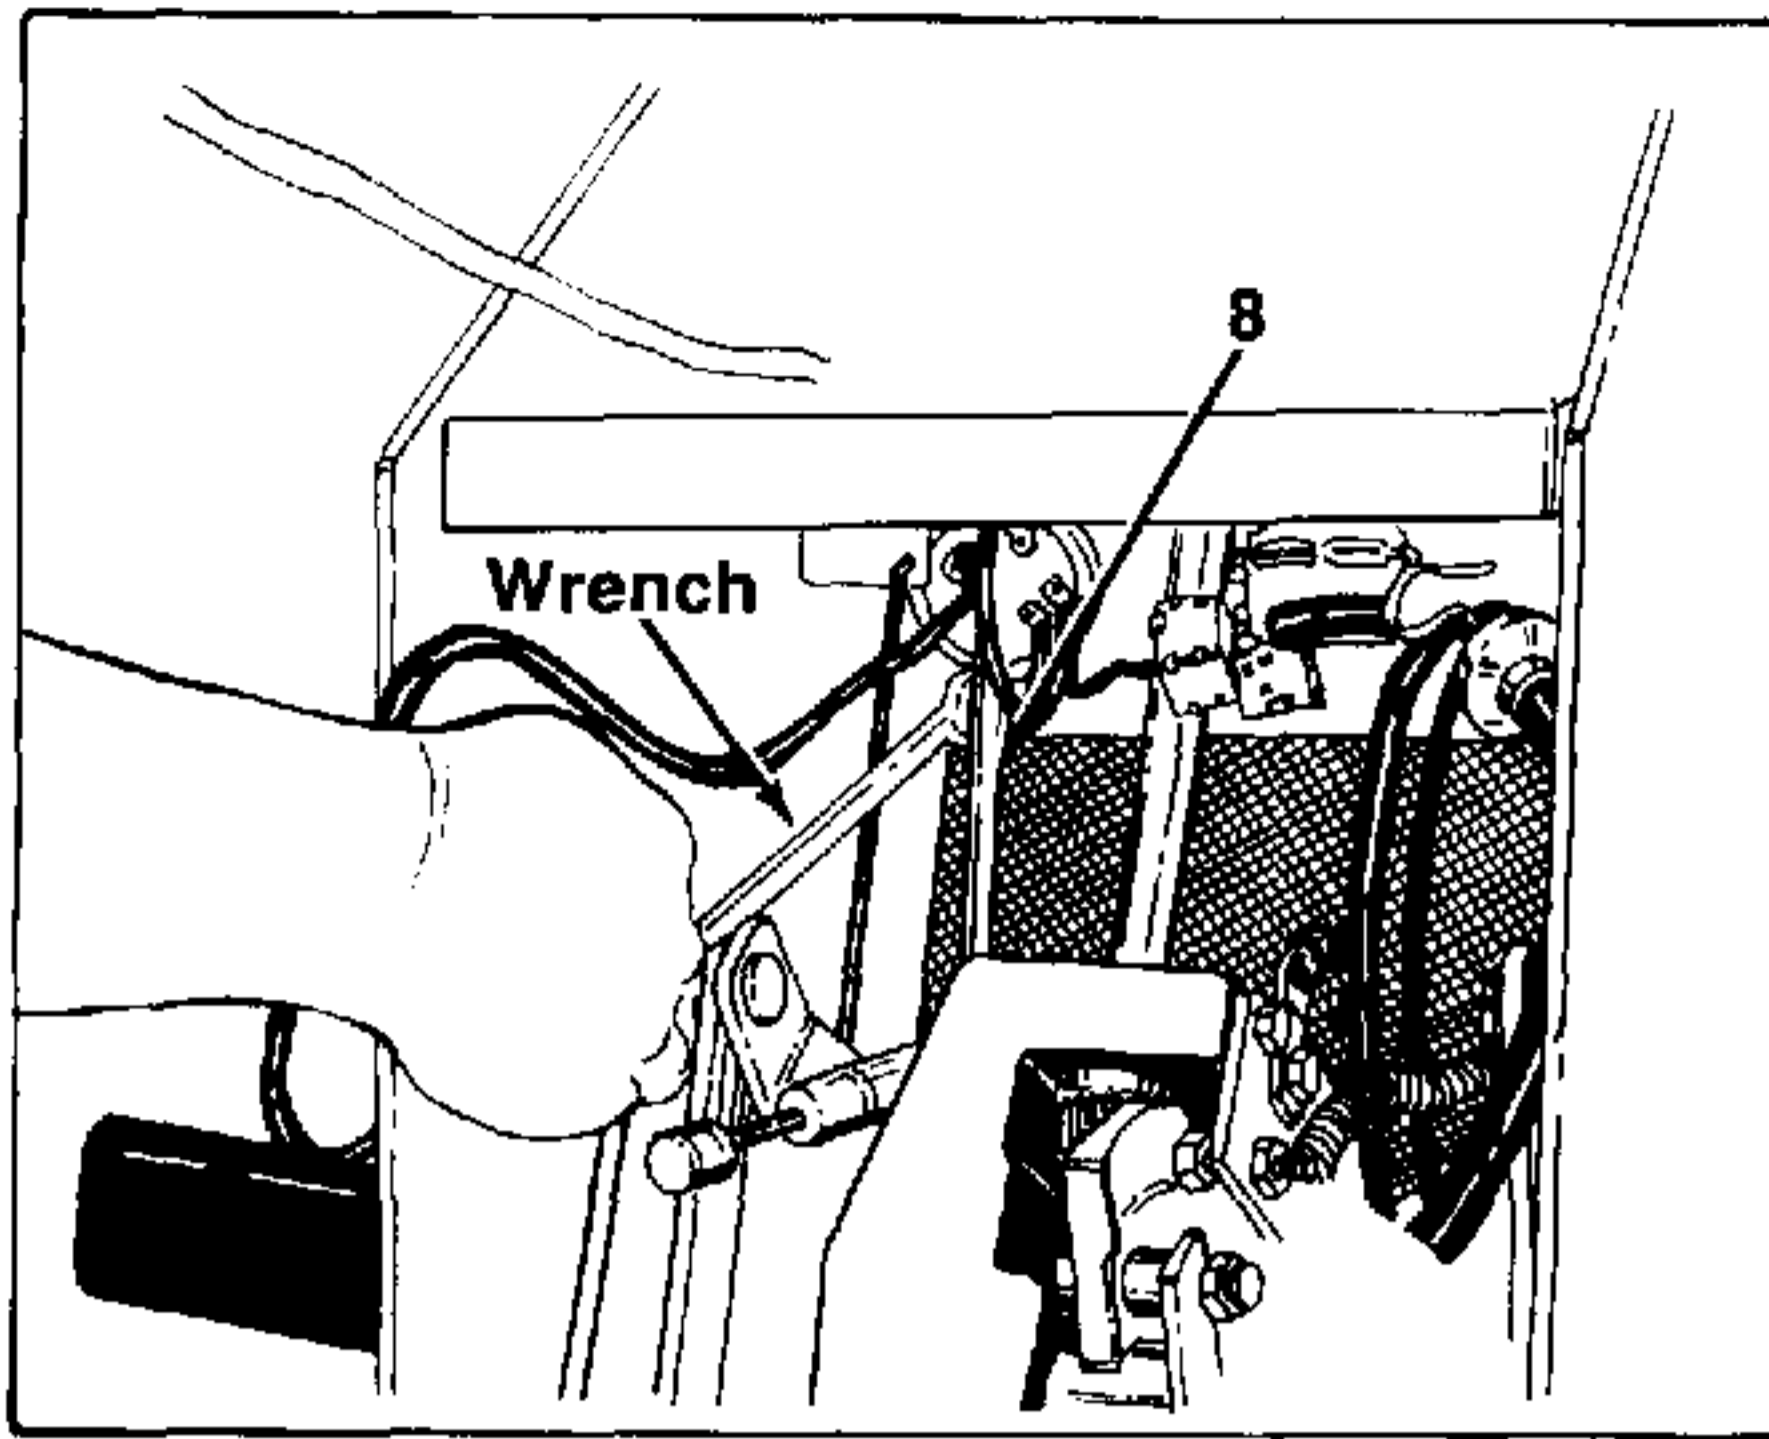

FIGURE 4.
5. Reach inside the right hand side of pedestal assembly and remove hex nut (Ref. 9) and two flat washers (Ref. 10) from parking brake lever (Ref. 8). See figures 4 and 5.